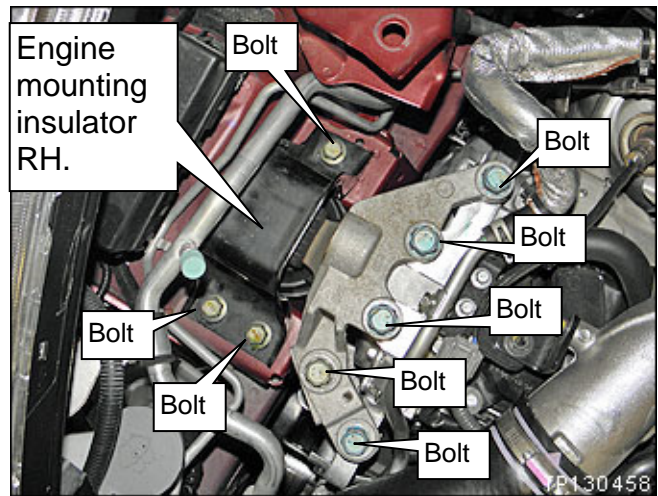

Figure 19
- a. Remove the 8 bolts shown in Figure 19.